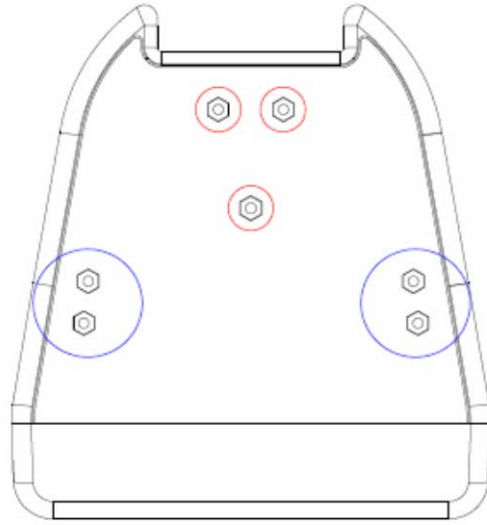

Figure 2
For the One Systems 112/HTH and 212/HC, a total of three (3) M10 “eye” bolts must be used for either a top mount or bottom mount (if the enclosure is “upside down”) configuration, as shown in figure 2 below.